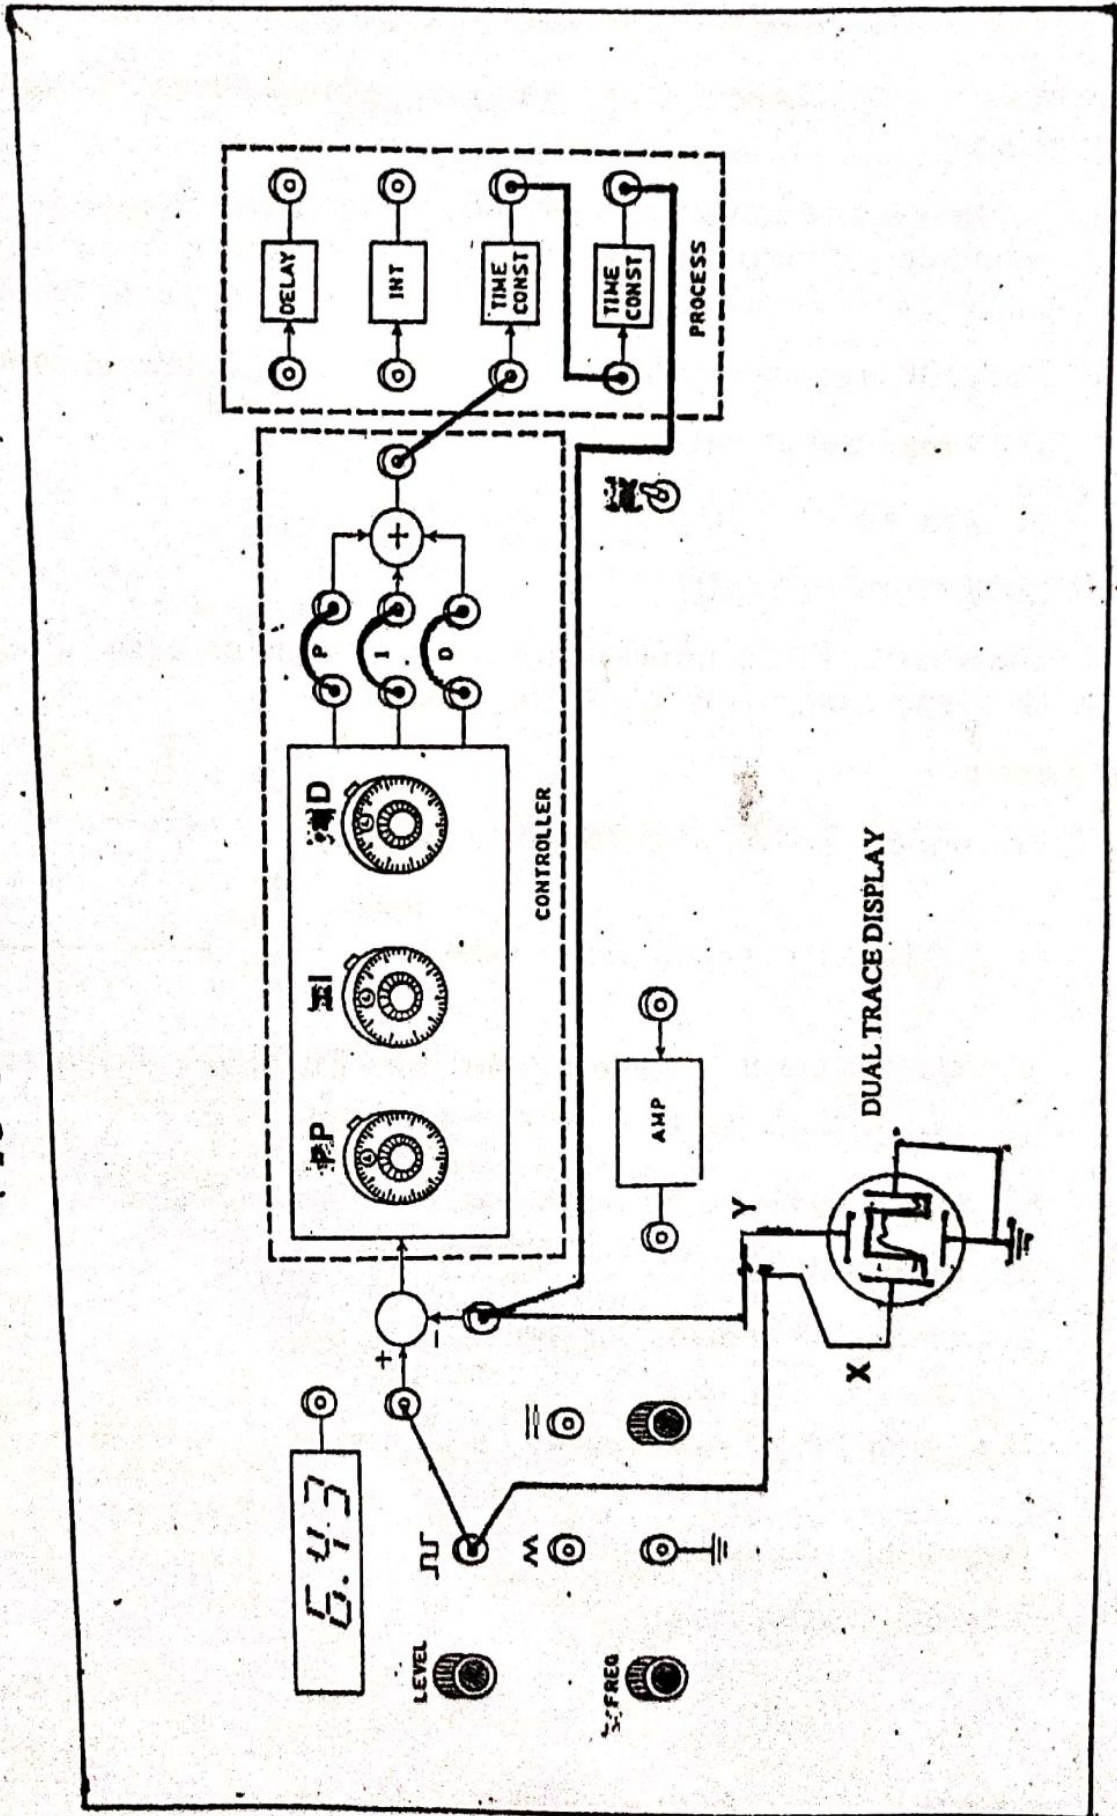

Fig :2 TWO TIME CONSTANT SYSTEM:PID CONTROL
2. Another approach to improve the system performance through elementary control actions with a controller inserted in the forward path (fig.2) of an existing control system, which has a unity feedback.